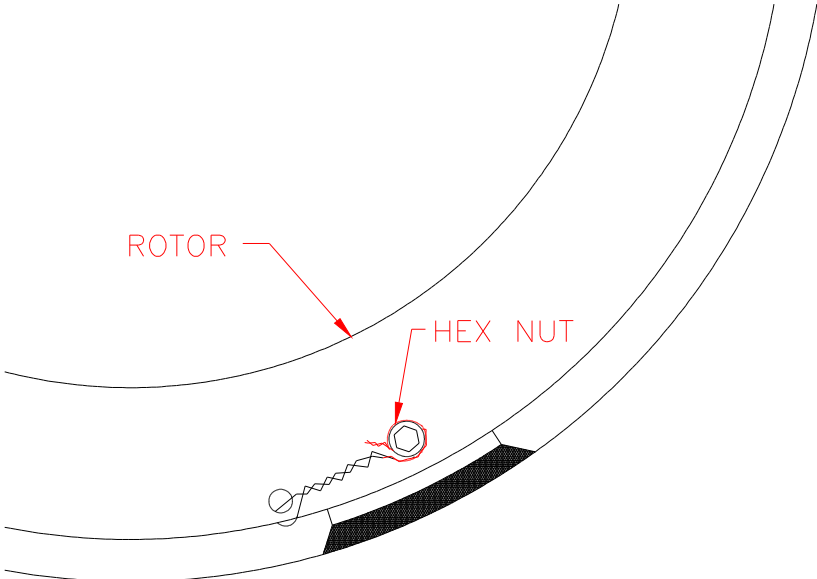

Figure 15.6.2
**NOTE:** For safety reasons it is important to safety wire the bolts which attach the rotor to the wheel rim. This can be done as shown in Figure 15.6.2.